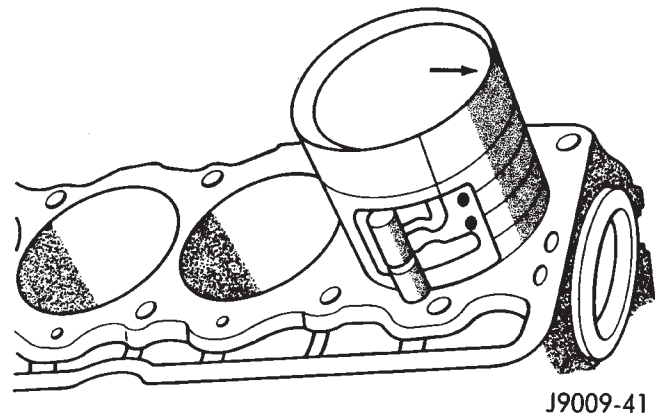

Fig. 6 Rod and Piston Assembly Installation
- (1) Wipe the oil from the connecting rod journal.
- (2) Use short rubber hose sections over rod bolts during installation.
- (3) Lubricate the upper bearing insert and install in connecting rod.
- (4) Use piston ring compressor to install the rod and piston assemblies. The oil squirt holes in the rods must face the camshaft. The arrow on the piston crown should point to the front of the engine (Fig. 6). Verify that the oil squirt holes in the rods face the camshaft and that the arrows on the pistons face the front of the engine.